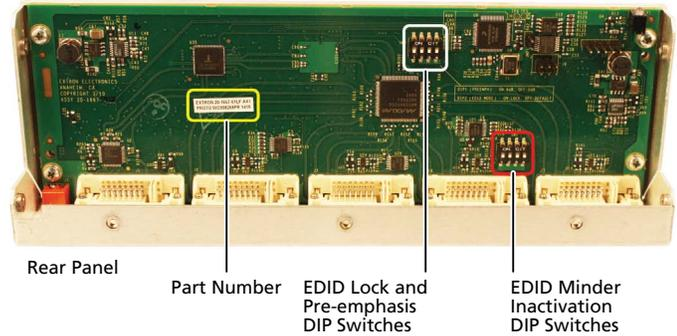

Figure 5. Printed Circuit Board for the DVI DA4 Plus
2. Check the part number of the printed circuit board (outlined in yellow in figure 5 on the next page). The boards must have a part number of 20-1496-01LF and higher for the DVI DA4 Plus or 20-1497-01LF and higher for the DVI DA6 Plus or DVI DA8 Plus.
3. Locate the DIP switches. There is a single bank of four switches for the DVI DA4 Plus (outlined in red in figure 5). Each switch regulates the correspondingly numbered output (1-4).
2. Check the part number of the printed circuit board (see figure 5). The boards must have a part number of 20-1667-01LF and higher for the DVI DA4 Plus or 20-1683-02LF and higher for the DVI DA6 Plus or DVI DA8 Plus.
3. Locate the Pre-emphasis and EDID Lock DIP switches. Figure 5, shows the switches for the DVI DA4 Plus. The DVI DA6 Plus and DVI DA8 Plus have an identical block of DIP switches in a similar position on the circuit board. The EDID Lock DIP switch (number 2) is labeled EDID Mode.